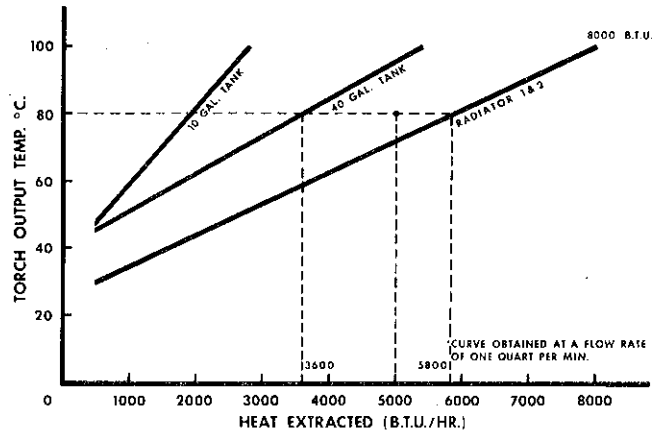

Figure 1-4. Heat Dissipation Chart
The actual performance of the coolant system is dependent upon and will vary with individual torch design. For each torch there is a maximum temperature the coolant going into the torch can reach and still provide adequate cooling. If this torch inlet temperature, along with the corresponding torch outlet temperature is known, Figure 1-4 can be used to determine the adequacy of the total system if the flow rate is approximately 1 quart per minute.
3. Use the BTU's/hour obtained above and the torch output temperature in degrees Centigrade to locate a point on the Heat Dissipation Chart Figure 1-4.